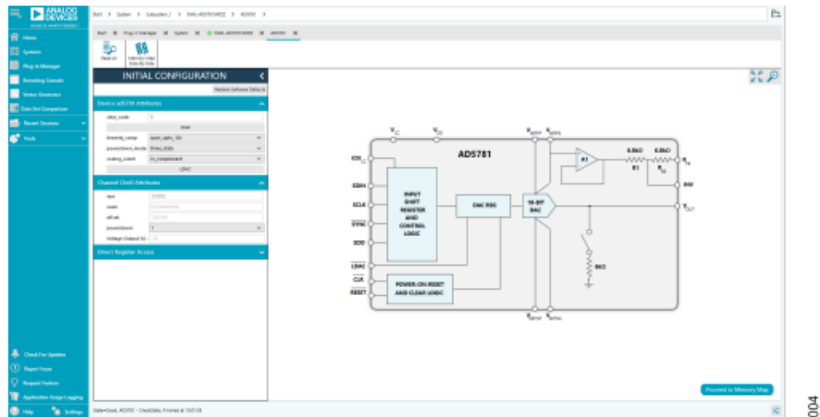

Figure 4. Chip View of the EVAL-AD5781ARDZ
4. Double-click the AD5781 or the AD5791 chip to access the chip block diagram shown in Figure 4. This view provides a basic representation of the functionality of the board, together with the INITIAL CONFIGURATION view. See Figure 5 and Table 1 for details on the registers of the board.